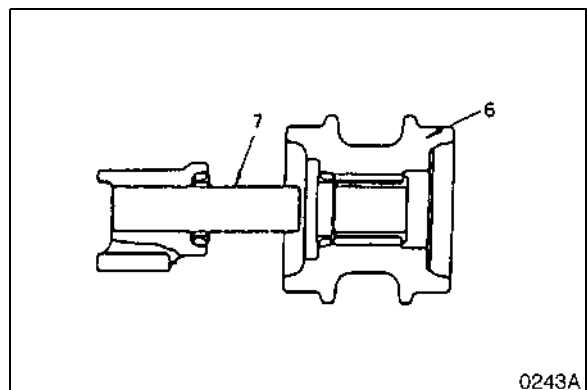

Figure 43
3. Separate the roller (6, Figure 43) from the axle (7).